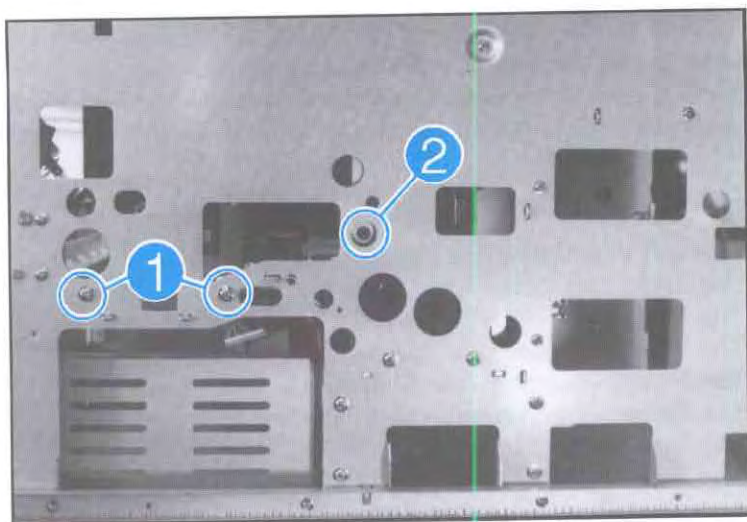

Figure 6-36. Left Block
11. From the left side of the printer, remove the (2) screws which secure the left fuser support bracket (see Figure 6-36, callout 1).
12. From the left side of the printer, remove the (1) self-tapping screw (see Figure 6-36, callout 2).